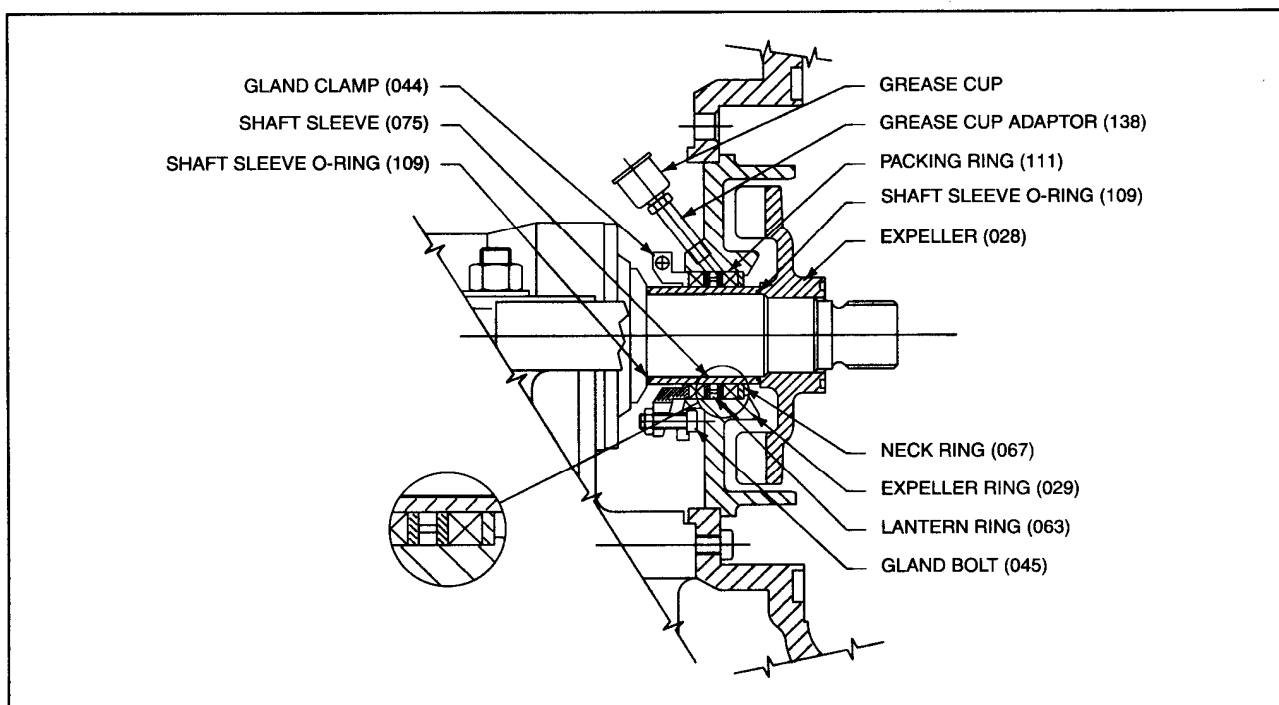

Figure 5-9 Centrifugal Seal Assembly - Metal Expeller Ring with Grease Lubrication
(REFER TO FIGURE 5-9)
8. Fit second SHAFT SLEEVE O-RING (109) and push into recess in the end face of the shaft sleeve.
9. Place EXPELLER (028) onto the shaft and press up to the shaft sleeve.
Fit GREASE CUP ADAPTOR (138) and GREASE CUP to expeller ring as shown in *Figure 5-9*. Fill cup with recommended grease and screw down the cap to charge lantern ring. Refill cup. (*Refer to Section 1, page 12 for recommended grease.*)